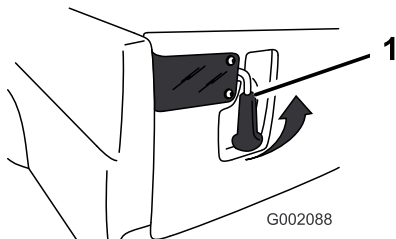

Figure 17
1. To open the tailgate latches, push outward and lift the latch handles up (Figure 17). The latches will spring out toward the center of the tailgate. Slowly lower the tailgate.